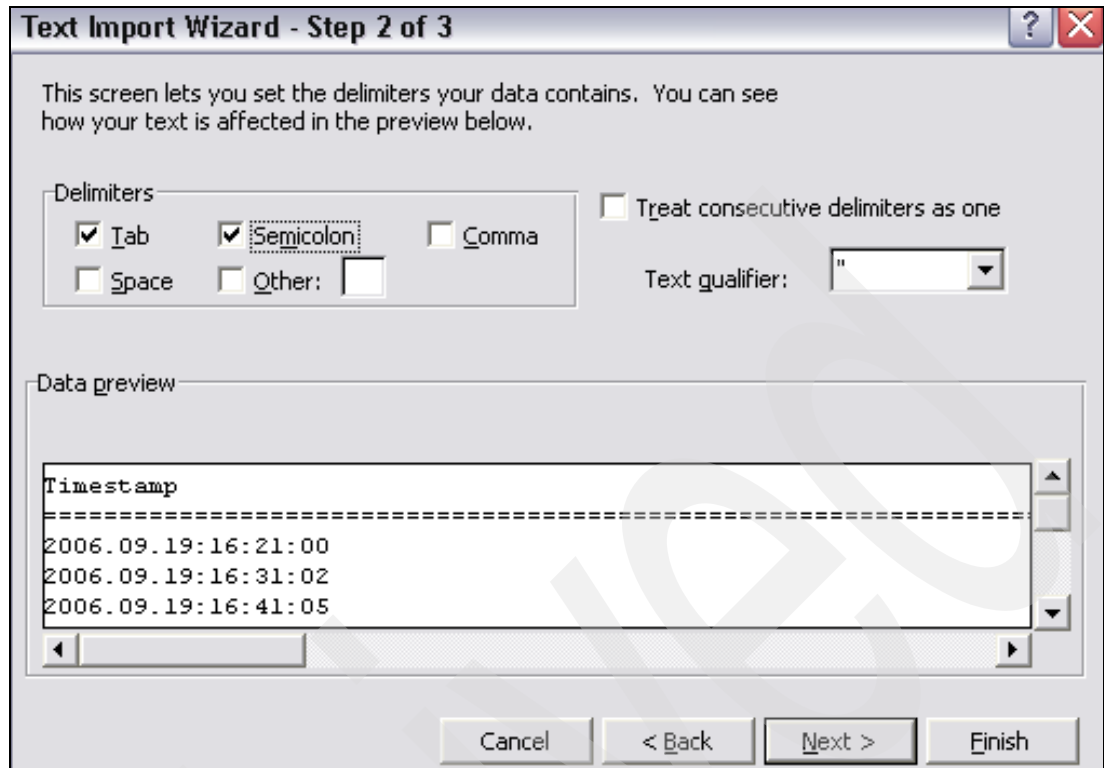

Figure 6-60 Select delimiter Semicolon
5. Select **Tab** (default) and enter the delimiter you select in your script. For our example, we selected the semicolon character (;) by checking the box to the left of **Semicolon**. See Example 6-25 and Figure 6-60 on page 287.